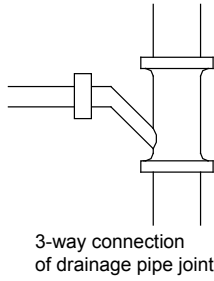

Fig.24
- NO.1: Attach the 3-way connection of the drainage pipe joint as shown in Fig.24.